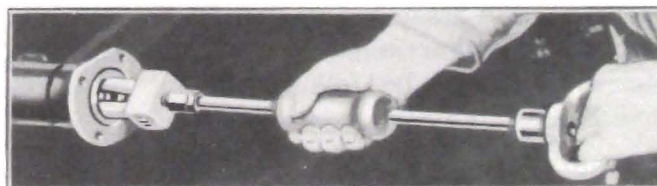

Figure 5-4—Removing Wheel Bearing and Oil Seal with Remover J 1436
4. Remove outer oil seal and roller bearing, then remove inner oil seal, using Remover J 1436. See figure 5-4.